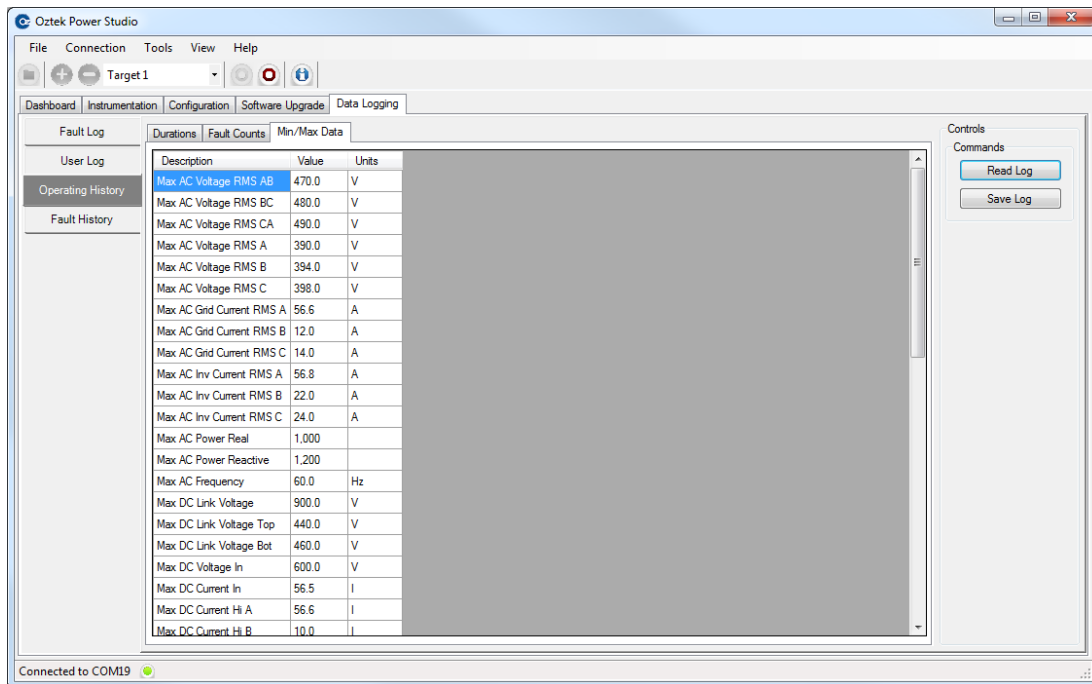

Figure 4 - Operation Log, Min/Max Data
- Figure 4 - Operation Log, Min/Max Data 6